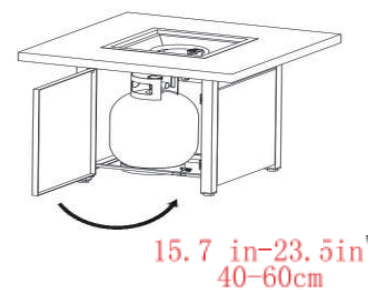

Figure 5
5. Close the firepit door panel (Figure 5).